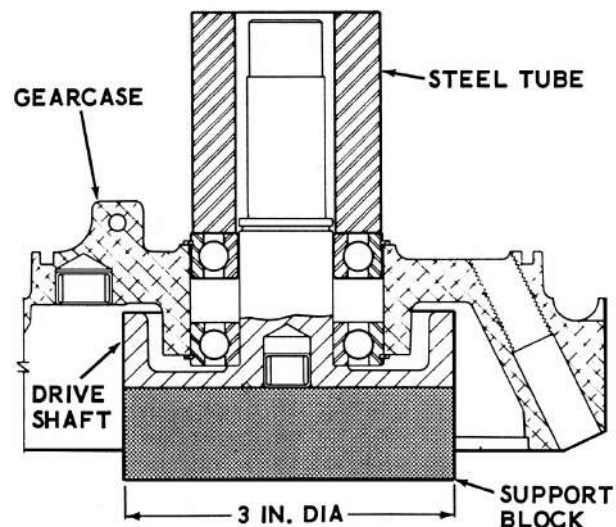

Figure 13
- d. Place the gearcase assembly on a flat block with gear shaft upward. See Figure 13.